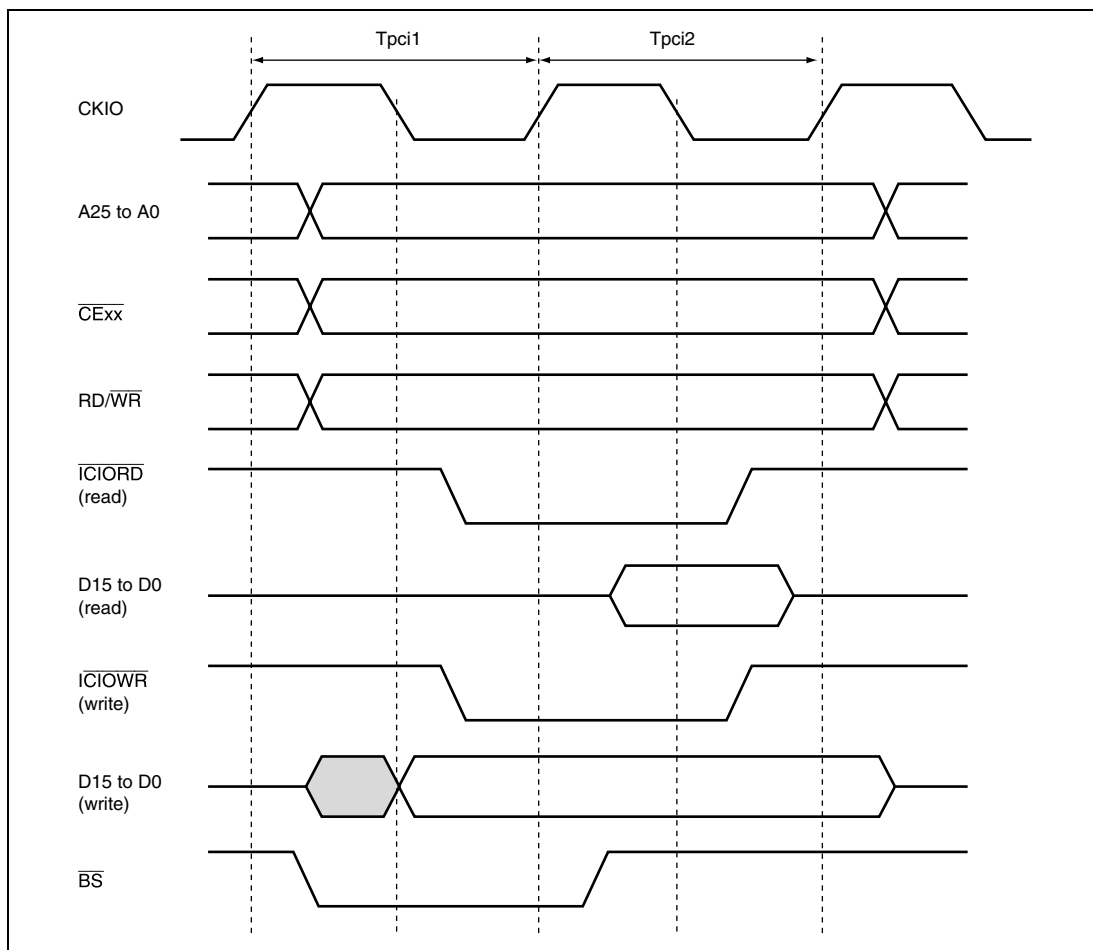

**Figure 8.36 Basic Timing for PCMCIA I/O Card Interface**
**I/O Card Interface Timing:** Figures 8.36 and 8.37 show the timing for the PCMCIA I/O card interface.